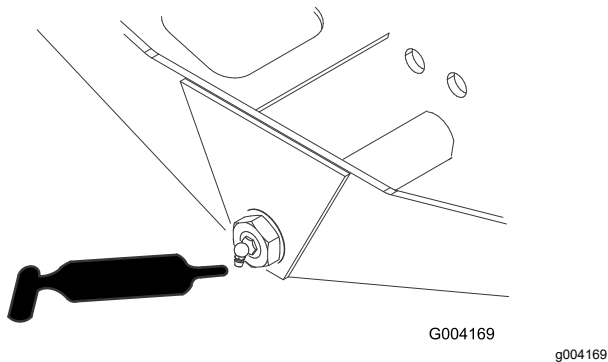

Figure 33
- Axle-steering pivot (1)—Figure 33